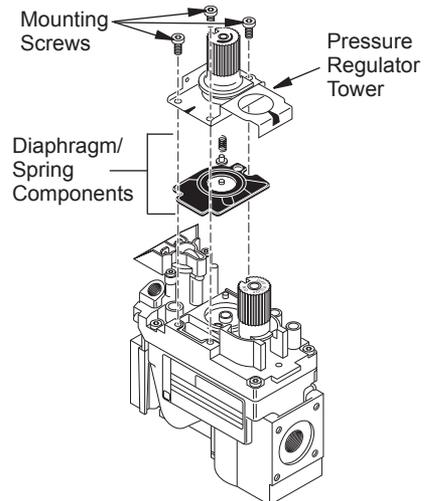

Figure 52- Removing Parts for Gas Control Valve Conversion
1. Using a TORX T20 or a slotted screwdriver, remove and discard three mounting screws, pressure regulator tower and diaphragm/spring components (see Figure 52).